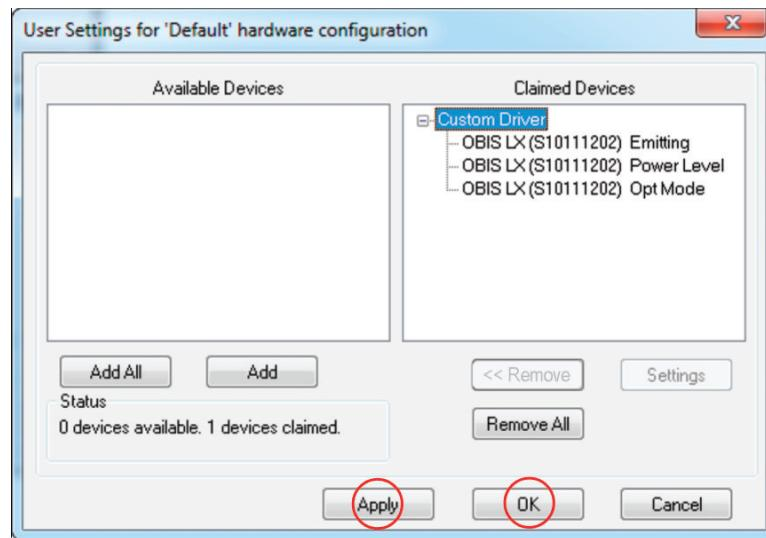

Figure VI-17. Save Settings
13. Click Apply, then OK to save these settings, as shown in Figure VI-17.